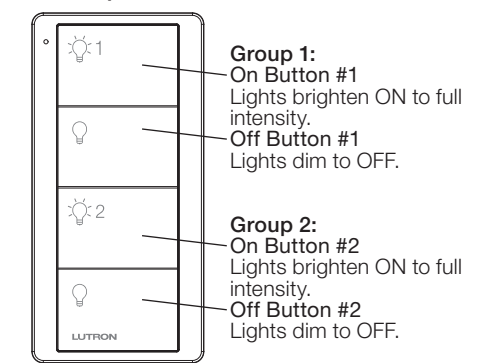

Figure 3c
**Note:** For 2-group Pico® wireless controls only, pair the second group by repeating steps 1 and 2 using the **Off** button of the second grouping (Figure 3c).